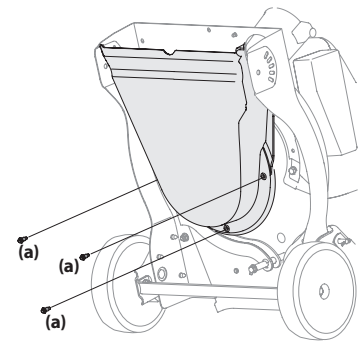

Figure 24
- Carefully tilt and support the unit up to provide access underneath to the nozzle mounting hardware and impeller. Remove the three shoulder bolts (a) securing the black plastic lower flail housing to the lower housing. Refer to Figure 24.